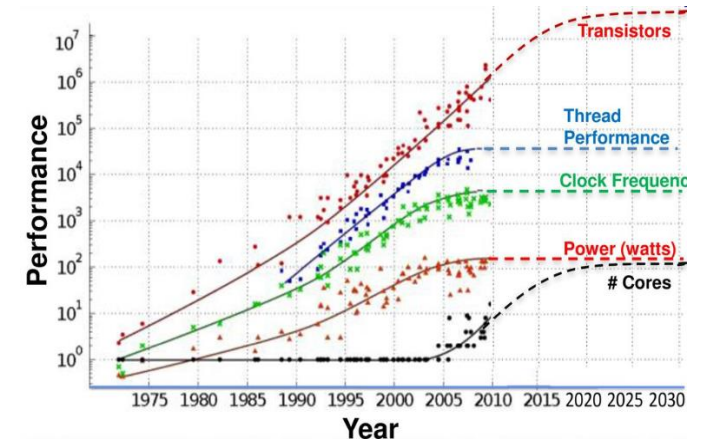

Figure 1: Technology scaling trend data
- Lower technology nodes trend (Figure 1) shows a major challenge on **power** which directly impacts the **battery life** and energy consumption of the System On-Chip(SOC) device.